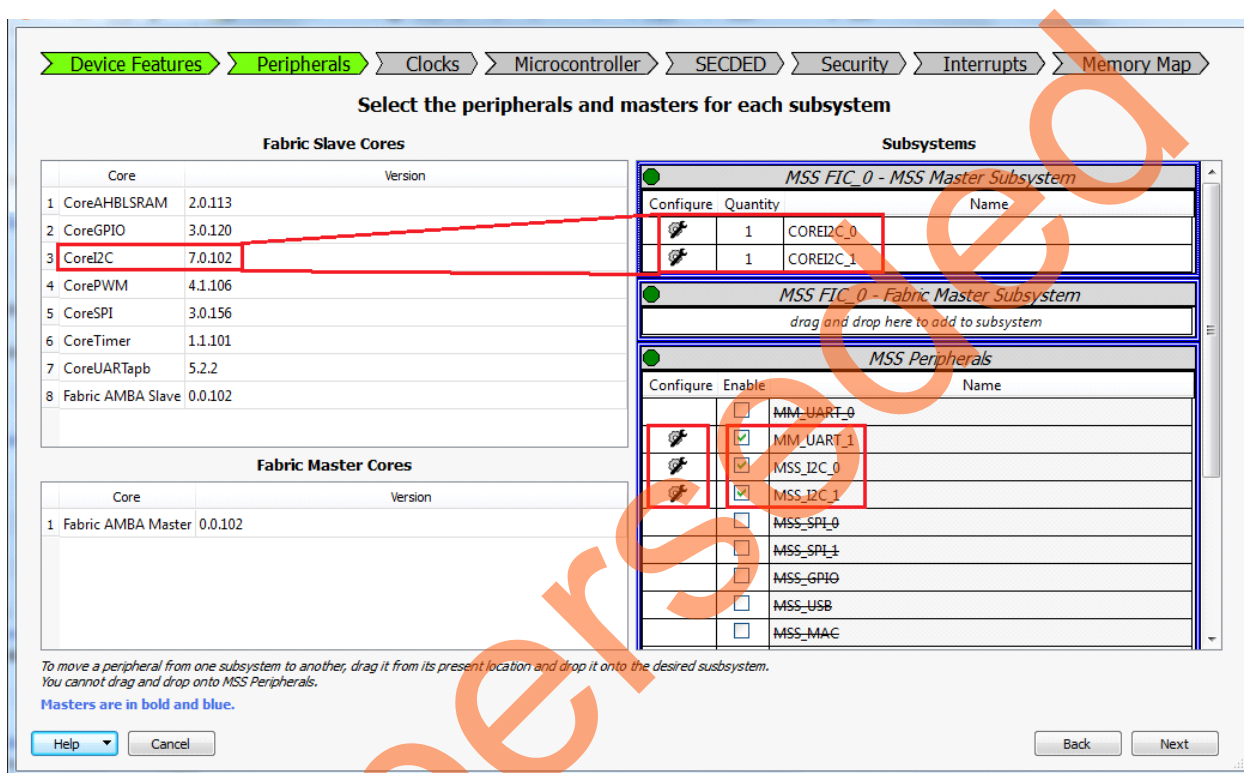

Figure 8 • System Builder - Peripherals Tab
1. The **System Builder** window is displayed with **Device Features** tab by default. Click **Next**, the **System Builder - Peripherals** tab is displayed. Drag two instances of CoreI2C and drop on to the **MSS FIC_0 - MSS Master Subsystem**. Figure 8 shows the **Peripherals** tab.
3. The design uses MMUART and I2C MSS peripherals. Select **MM_UART_1**, **MSS_I2C_0**, **MSS_I2C_1** and uncheck all other peripherals (refer Figure 8).